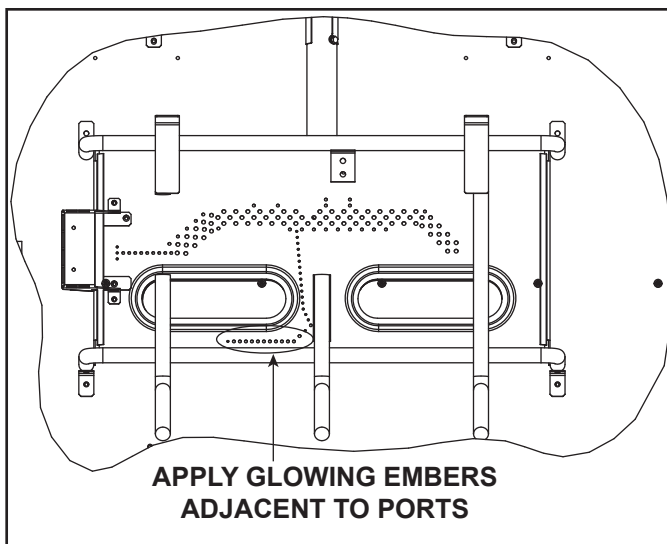

Figure 11.10. Location of Glowing Embers
- Place dime-size pieces of Glowing Embers® just in front of the port trail, but not on or in between the ports (see Figure 11.10). Care should be taken so that the ports are not covered. Failure to follow this procedure will likely cause lighting and sooting problems.